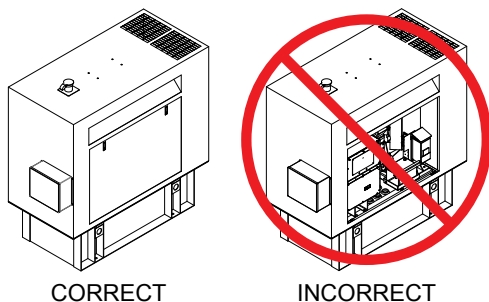

Figure 18. Engine Enclosure Door
1. Close the engine enclosure door once the generator has started or set to auto start (Figure 18).